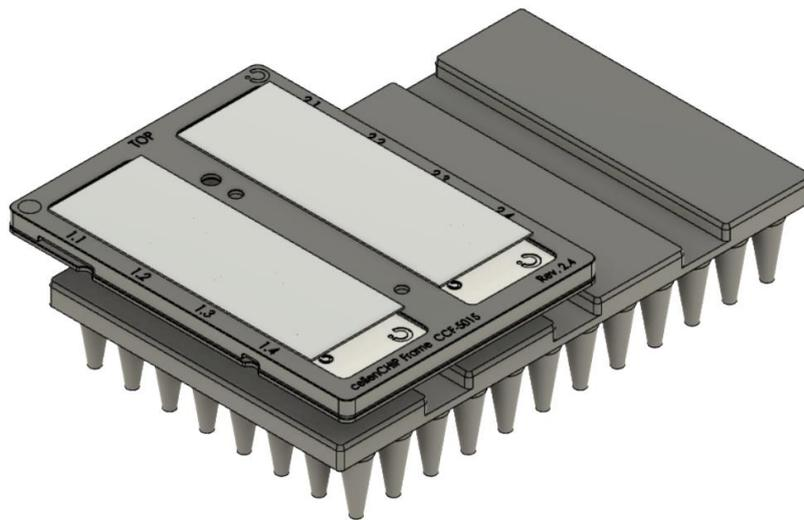

Fig 5. cellenCHIP 384 Thermal Adaptor assembly with the cellenCHIP 384 assembled in the cellenCHIP 384 Holder.
- mounted in the **cellenCHIP 384 Holder** onto the **cellenCHIP 384 Thermal Adaptor** in one of the compatible thermocycler (Fig 5), or